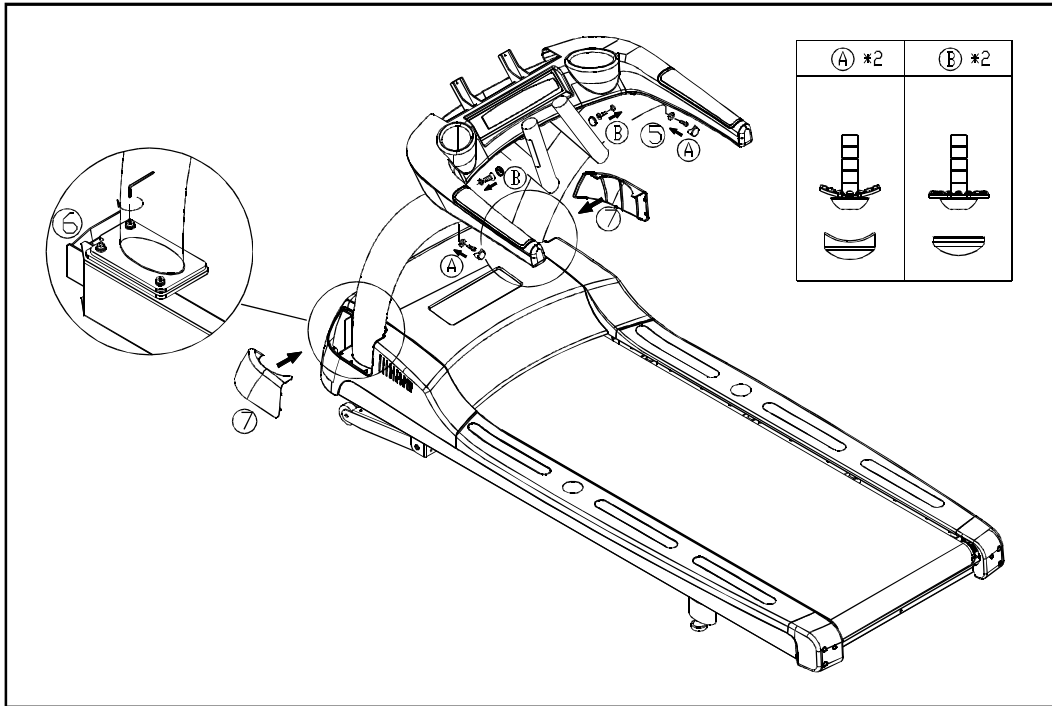

Fig.3
STEP 3. Secure the handlebars by fastening the bolts with washers (A: arc washers; B: flat washers) as shown. Then put the decorative covers in place. After that, firmly tighten the bolts to secure the pedestals and secure the pedestal side covers (both left and right) in place. (See Fig. 3.)